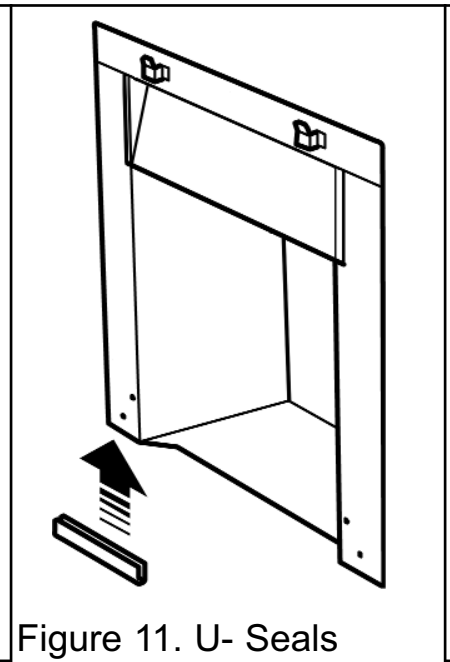

Figure 11. U- Seals
2. Fit the two U- seals 'A' to the bottom edges of the hotbox side flanges (See figure 11).